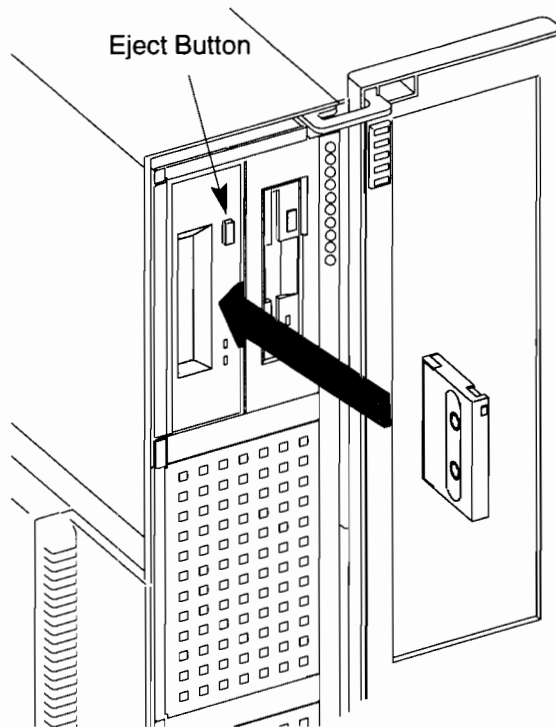

Figure 7-2. Loading a Data Cassette
1. Insert the data cassette into the drive, as shown in Figure 7-2.
3. To remove the data cassette, press and release the eject button on the front of the drive, as shown in Figure 7-2. The LEDs on the drive flash on and off. Twenty to thirty seconds later, the data cassette slides partway out of the drive.